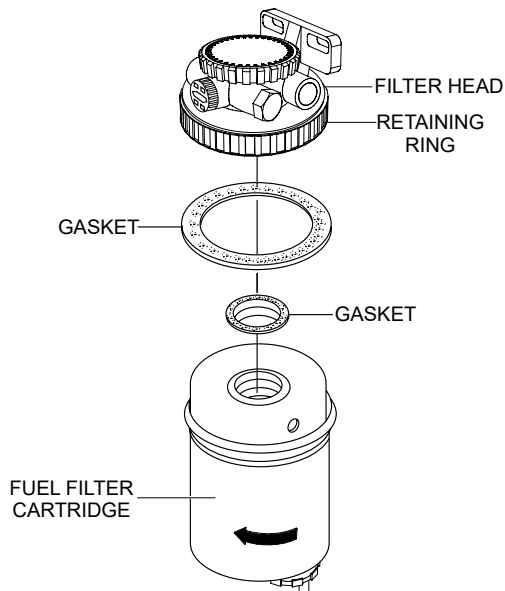

Figure 70. Fuel Filter Cartridge Replacement
1. Use a filter wrench to remove the fuel filter cup (Figure 70) from the fuel filter head.